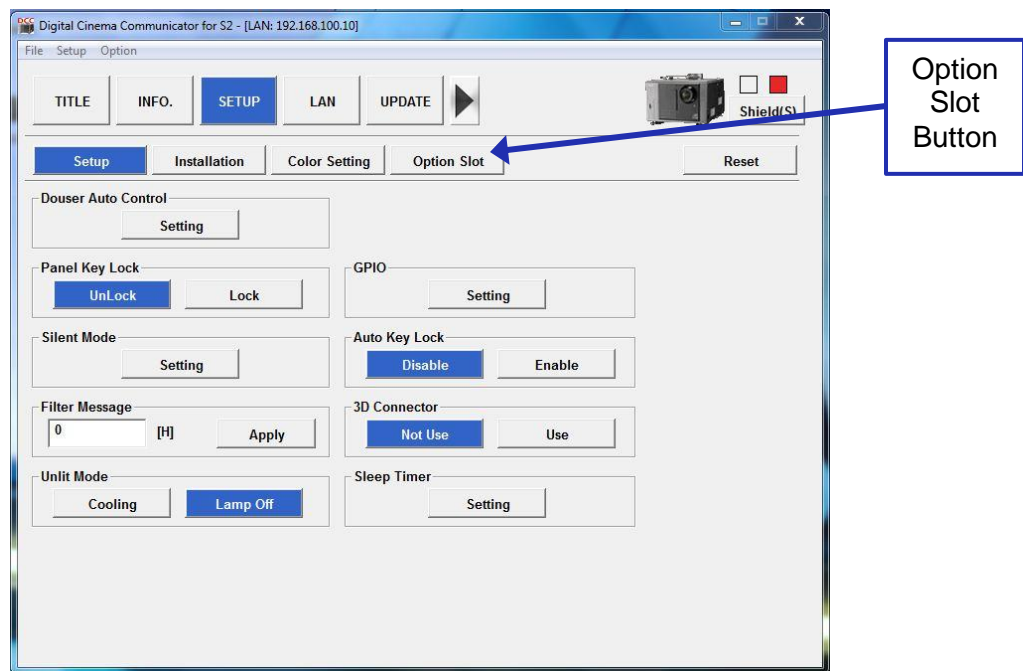

Figure 35: Setup Window
- When the Setup window appears, click on the Option Slot button (Figure 35).